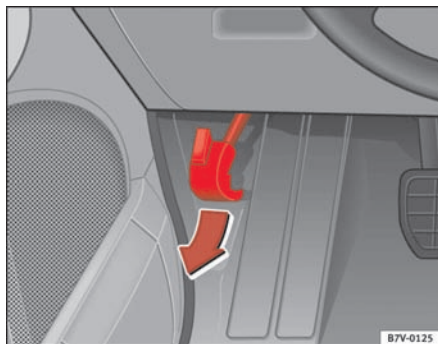

Fig. 139 Detail of the footwell: The release lever for the bonnet is located in the driver side footwell
- To release the bonnet, pull the lever under the dashboard ⇒ **fig. 139** in the direction indicated (arrow). The bonnet is unlocked by a spring ⇒ .